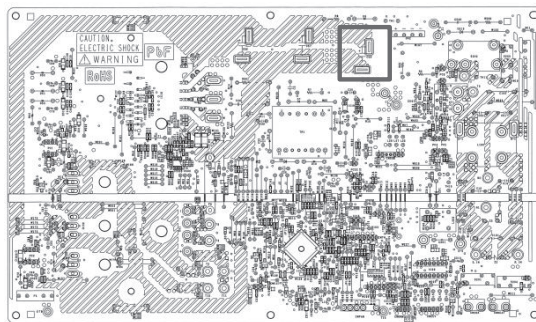

Fig.2 Terminal of C58 on PCB
- 6) Check a voltage with the terminal of C58 by multimeter. (Fig.2)